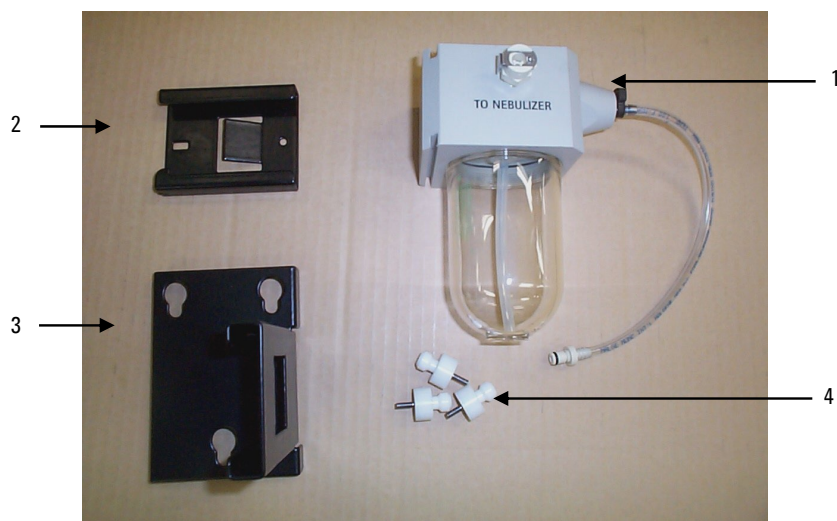

Figure 1. Components of the Argon Saturator Accessory kit
- ASA assembly (Item 1 in Figure 1)
- ASA mounting bracket, radial (Item 2 in Figure 1)
- ASA mounting bracket, axial (Item 3 in Figure 1)
- Mounting studs (Item 4 in Figure 1)